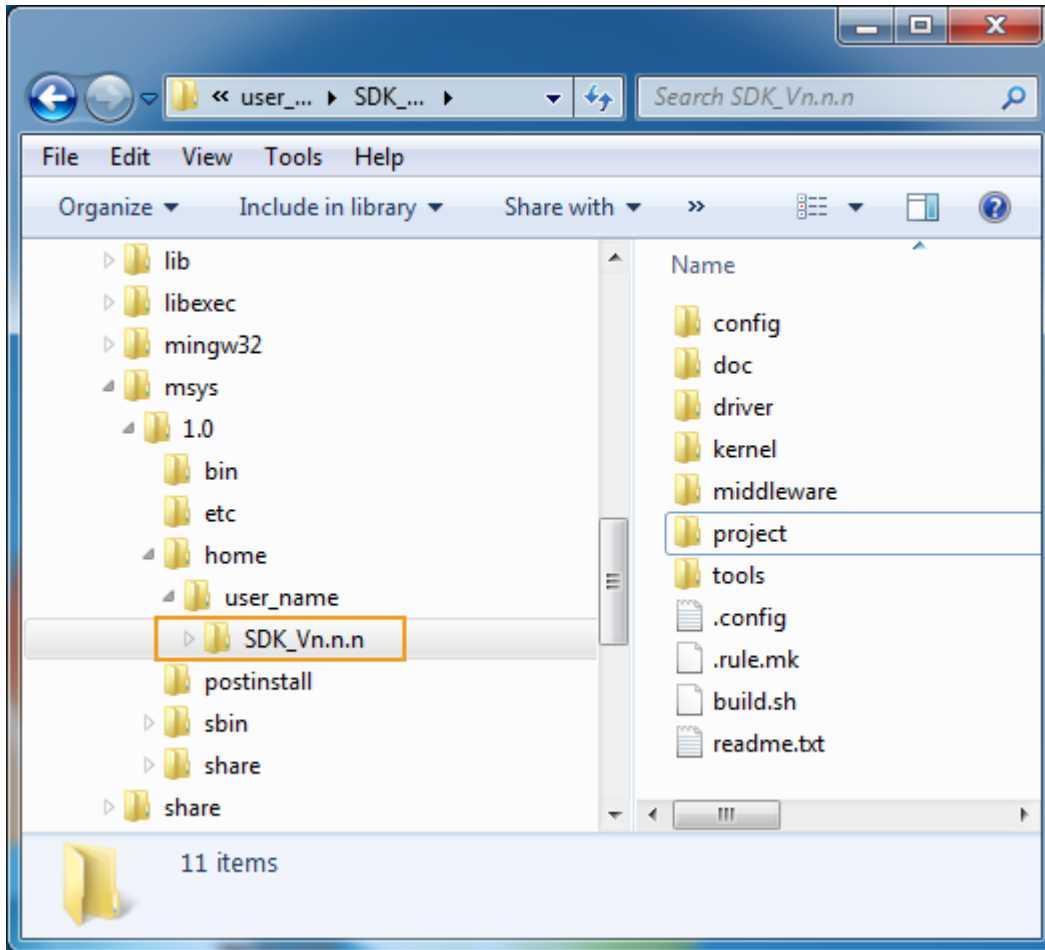

Figure 8. MinGW folder structure
| Figure 8. MinGW folder structure..... | 7 |
- 10) Copy the SDK to MinGW `home/<user_name>` folder, as shown in Figure 8.